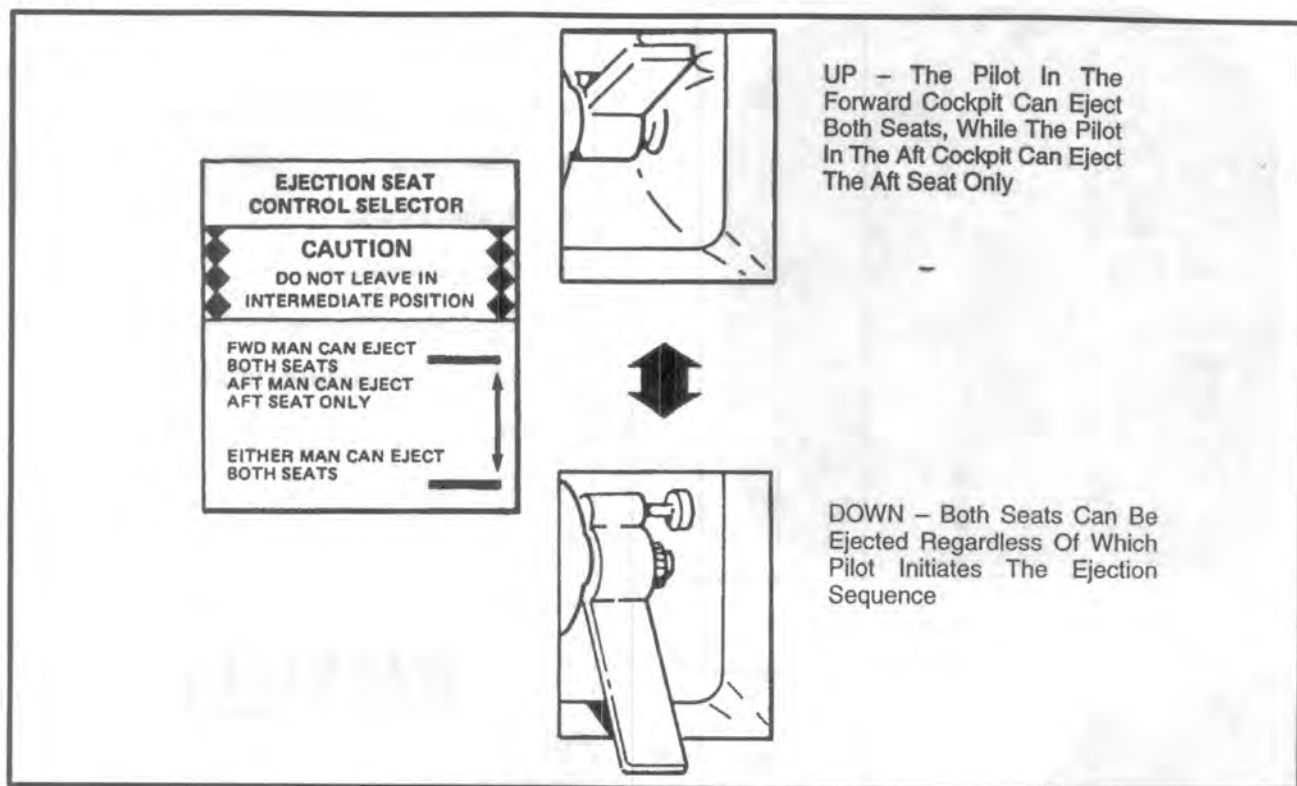

Figure 5-10 Ejection Seat Control Selector
5.217 The TA-4 has an Ejection Seat Control Selector fitted in the forward cockpit. It is located in the rear left hand side of the cockpit and should be checked and set during preflight. The two selector positions determine if the aft seat can eject both seats (down) or the aft seat only (up). The forward seat will always eject both seats, independent of selector position. Refer to Figure 5-10.